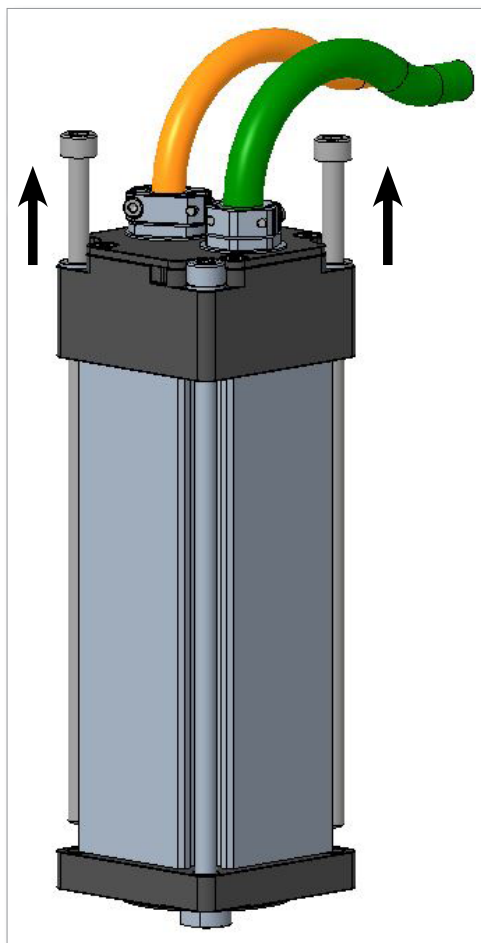

Figure 6-15 Remove the two mounting screws
3. Remove the two SHCSM5X155 mounting screws. See Figure 6-15.